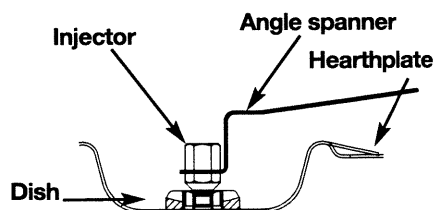

Fig. 2
- Using the spanner supplied, unscrew the injectors at the bottom of each dish and remove them (fig. 2).